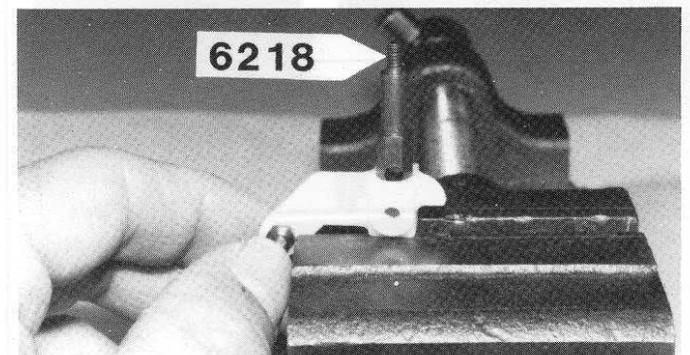

Fig. 3
□ **Fig. 3** Push the #6218 front axle from Bag 7-1 into the #6217 steering block as shown so the hole in the axle lines up with the hole in the steering block. It may push together with your fingers. If not, LIGHTLY tap it into the hole. Assemble the right hand side in the same way.